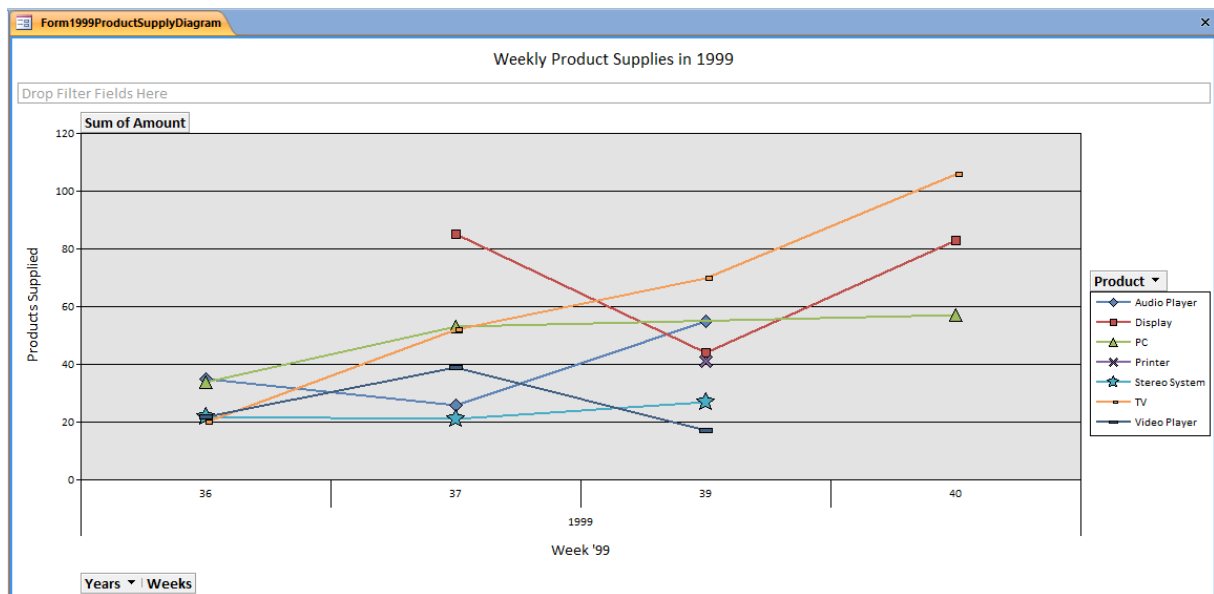

Figure 6.4
3. Select another chart type, i.e. “Line”, and then pick “Line with markers displayed at each data value” (figure 6.4).